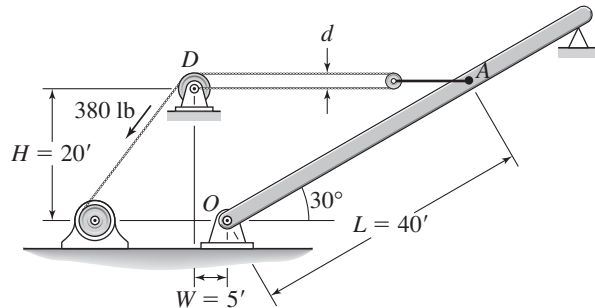

Figure P26
26. Consider the system for lifting a mast shown in Figure P26. The 70-ft-long mast weighs 500 lb. The winch applies a force  $f = 380 \text{ lb}$  to the cable. The mast is supported initially at an angle of  $30^\circ$ , and the cable at  $A$  is initially horizontal. The equation of motion of the mast is